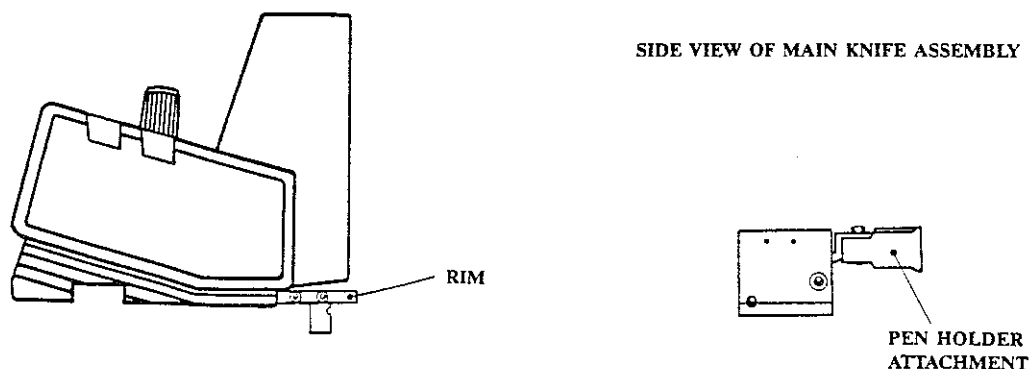

FIGURE 1-7. ATTACHING THE PEN HOLDER TO THE KNIFE ASSEMBLY
3. Slide the pen holder onto the rim of the knife assembly (see Figure 1-7) until it makes contact with the two pins on the knife assembly. Insert the pen into the pen holder by gently pushing the large center rim of the pen between the jaws of the pen holder.